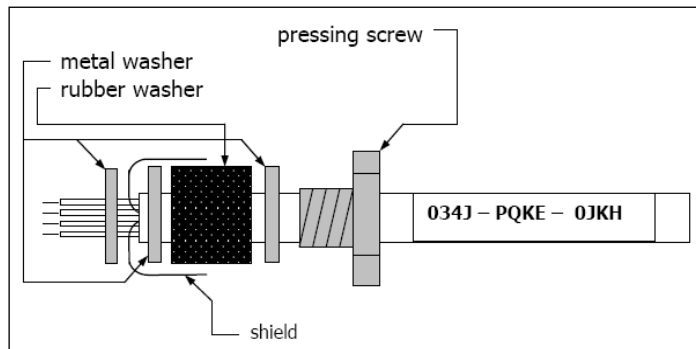

Figure 17: Cable assembling
2. Extract about 4 mm of the wire isolation and tin the wire ends. Place the pressing screw, the rubber washer and the metal washers of the cable gland one after the other onto the prepared cable end (see **Figure 17**).